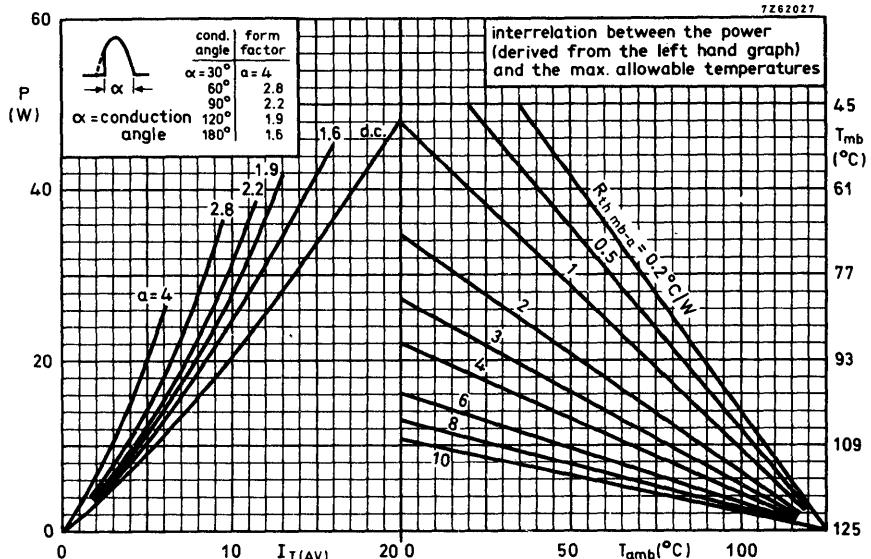

Fig. 3.
* To ensure thermal stability: $R_{th\ j-a} < 4,5$ °C/W (d.c. blocking) or < 9 °C/W (a.c.). For smaller heatsinks T_j max should be derated. For a.c. see Fig. 3.